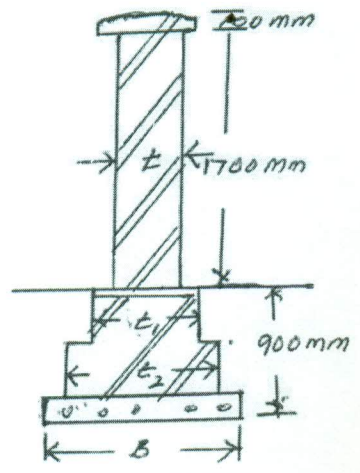

Fig. Q10(b)
- b. Design a compound wall, the height of which, is 1.8m up to the top of coping. Assume wind pressure equal to 1000 N/m^2 and is uniformly applicable. The safe bearing pressure on the soil is 120 kN/m^2 . Hard bed is available at a depth of 900mm below ground level. Refer below Fig.Q10(b). (12 Marks)